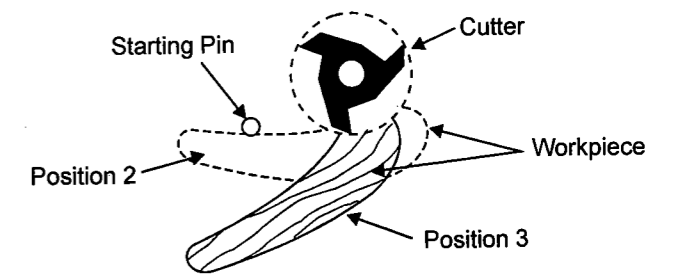

FIGURE 26
3. After the cut has been started, the work is swung free of the starting pin and only rides against the collar, Figure 26. Always feed against the cutterhead rotation.